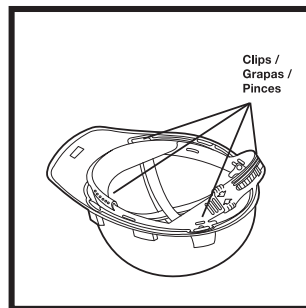

Figure 2
- NOTE:** If helmet label displays reverse symbol , suspension may be installed in reverse (sweatband opposite brim) to allow helmet to be worn with brim at rear of head (Figure 2).
- Push each of four clips into its slot (Figure 2); you should feel and hear them snap into place.